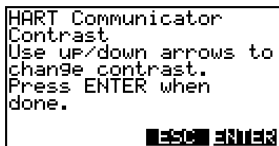

FIGURE 1-27. Contrast Menu.
1. From the Configure Communicator menu, press **VWX 2** to access the Contrast menu (**Figure 1-27**).